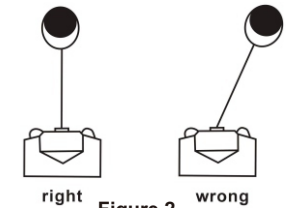

Figure 2
- Avoid continuous pulls from extreme angles because this will cause the wire rope to pile up on one end of the drum (see figure 2) and damage the wire rope.